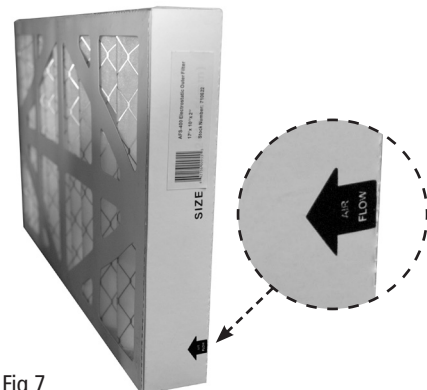

Fig 7
- The filters should be replaced and / or cleaned depending on the amount of usage and the environment of your workshop. Clogged filters will reduce the amount of air circulation. There is an arrow indicating the air flow direction on the outer filter (Fig 7). Make sure the filter is inserted facing the proper direction.